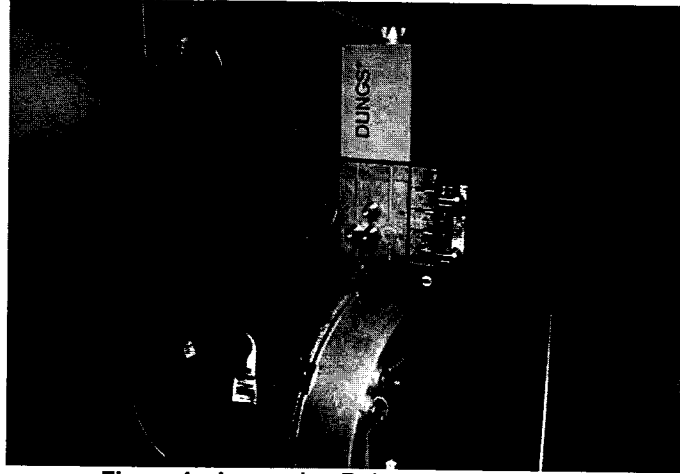

Figure 4 – Loosening Bolts on the Gas Valve
5. a. ON MOD CON 850 and 1700 MODELS: Use a 5mm Allen key to loosen 4 screws on the left side of the gas valve. See Figure 4. Remove the 2 front screws. Leave the 2 rear screws loosened, but connected to the gas valve. This will allow for easier proper realignment.